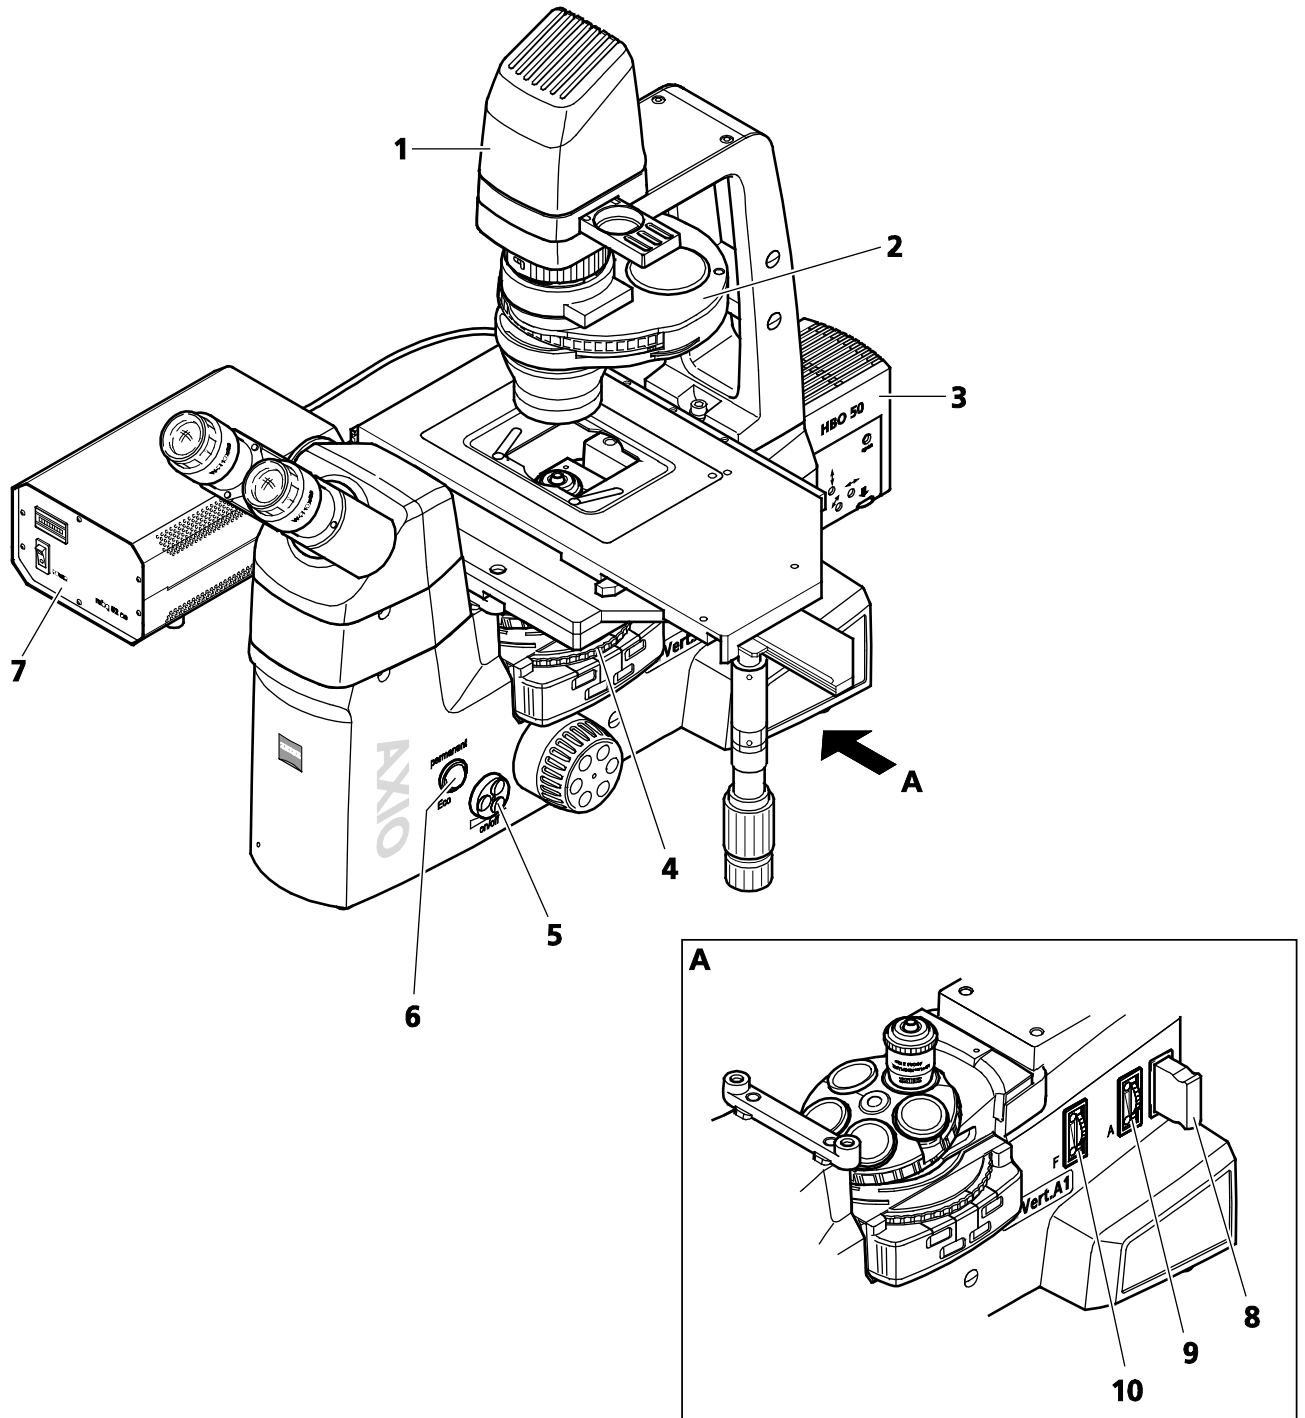

Fig. 4-17 Setting Fluorescence
- Select the area of the specimen in transmitted light bright field or phase contrast. To this end, switch the reflector turret (Fig. 4-17/4) to free passage and set the position for bright field or phase contrast on the condenser (Fig. 4-17/2).
- Use the power supply unit (Fig. 4-17/7) to turn on the fluorescence illumination, e.g., the HBO 50 illuminator (Fig. 4-17/3).
- Once you have selected the area of the specimen, use the **on/off** function (Fig. 4-17/5 and 6) to switch off the transmitted light illumination (Fig. 4-17/1).
- Using the reflector turret (Fig. 4-17/4), rotate in the desired filter set and unblock the light path with the reflected light shutter (Fig. 2-7/25).
- Close the luminous field diaphragm (Fig. 4-17/10) until it is visible in the image. Using the centering screws, move the diaphragm into the center position and open it all the way to the edge of the field of view.
- Additional excitation filters measuring 25 mm in diameter and held in position by O-rings can be inserted into the additional filter slider (Fig. 4-17/8).